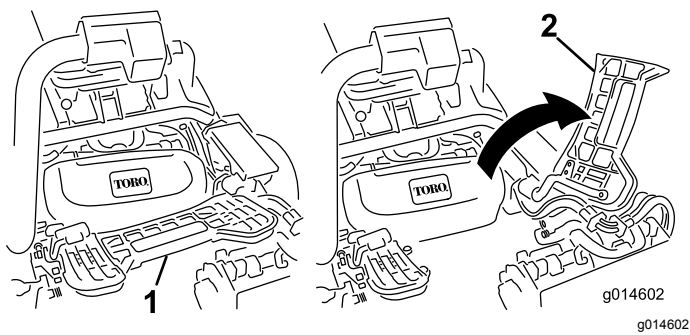

Figure 28
1. Lift up on the foot rest and swing it open, allowing access to the center cutting unit position (Figure 28).